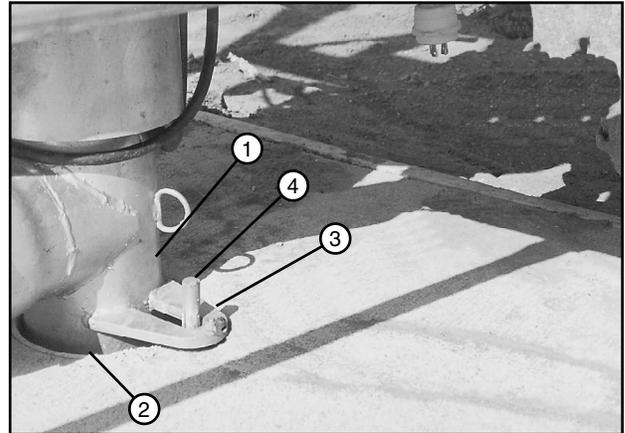

Figure 41-1 1. Riser Pipe
17. Align and lower the riser pipe into the anchor pipe. Be sure the slotted ears on the riser pipe align with the studs in the pivot pad. In addition, the slotted ear on the Stop-In-Slot and End Gun Shutoff bracket must be positioned on the "T" bracket. See figure 41-1.